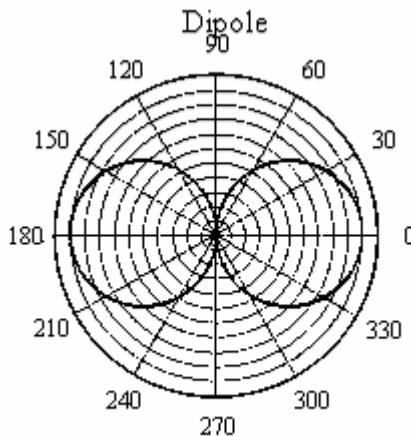

Figure 3.3 Directivity Pattern Unsuitable for DIY Kits
- Extreme caution must be exercised with dipole directivity pattern (see Figure 3.3) because this directivity can pick up undesired noise (e.g. noises from open side windows),.